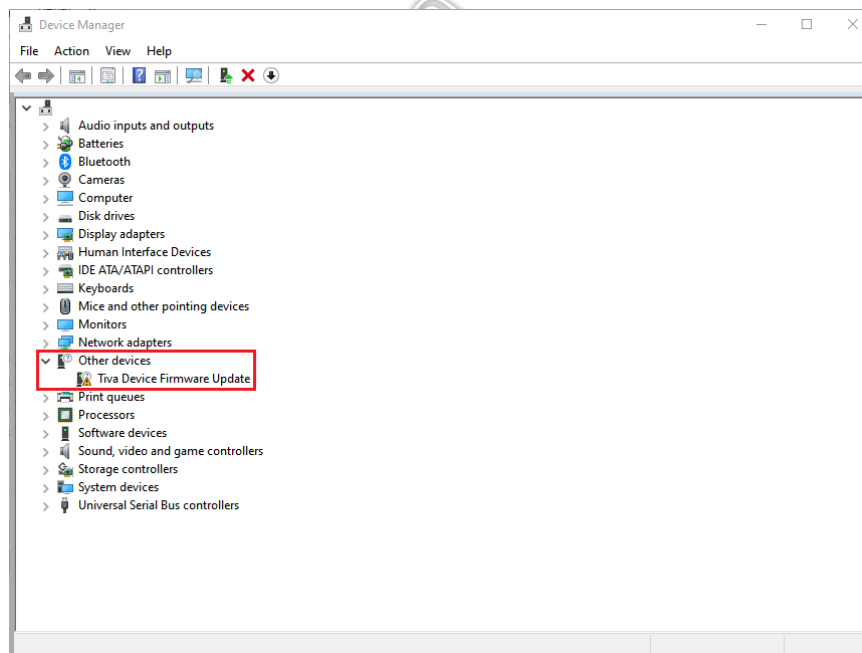

Figure A-1 Device Manager
- 7 If USB driver automatic installation is failed, then there will be an unknown device named “Tiva Device Firmware Update” on the PC’s device manager shown in Figure A-1.